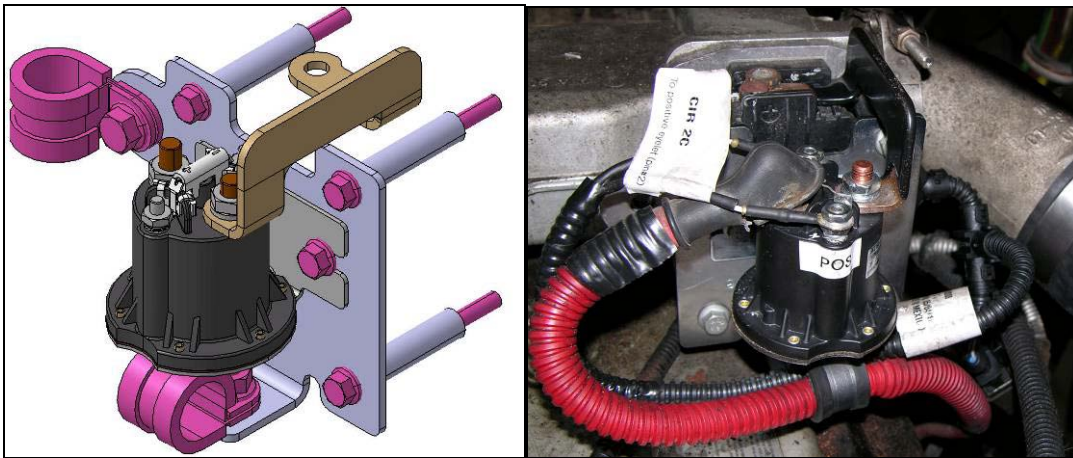

Figure 2 – Relay and Bracket Assembly
7. Install the relay bracket and 2.7 kW grid heater (P/N: EA0001595204) to the mixer housing using new M6x70 bolts (P/N: N910105006011) as shown in Figure 2. Torque bolts to 10 N·m (7 lb·ft).